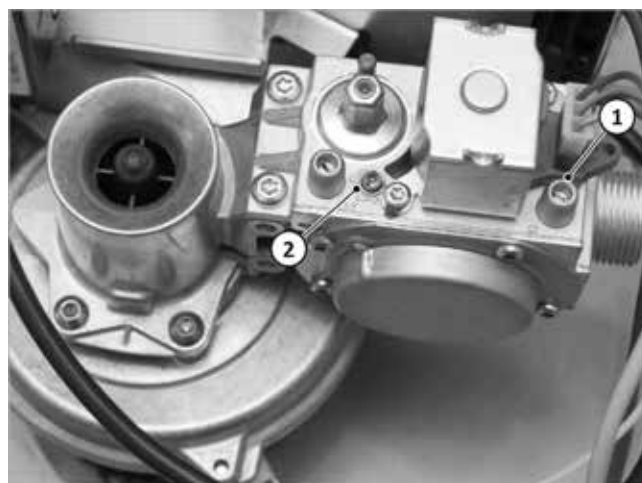

Fig. 97: Setting the burner
- The measurement connection is used to check the gas’ flow pressure when the burner is in operation → fig. 97 (1).